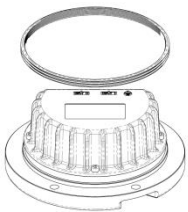

Figure 5-16
- Replace the lighting fixture gasket outside the inner cover: Take down the gasket outside the inner cover and carefully clean the gasket. Assemble the new gasket to the correct working position on the inner cover. Please note that the gasket shall not be bent (Figure 5-16).